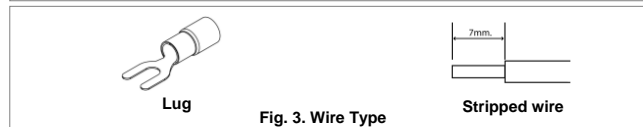

Fig. 3. Wire Type
- Use flexible cable (stranded or solid), AWG no. 14-22. The torque at the Connector shall not exceed 7.1lbf.in The insulation stripping length should not exceed 0.275" or 2mm Refer to Fig. 3.